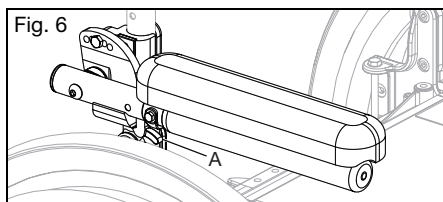

Fig. 6
- a. Press the release lever (Fig. 6:A) up to release the armrest.